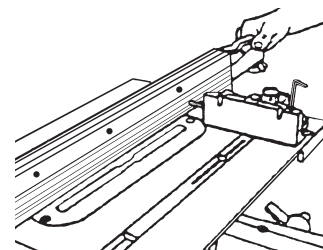

Figure 69
3. Move the Rip Fence toward the Allen Wrench until it just touches. Tighten the Handle, then lock the Outfeed Clamp Lever to secure both ends of the Rip Fence, as shown in Figure 69.